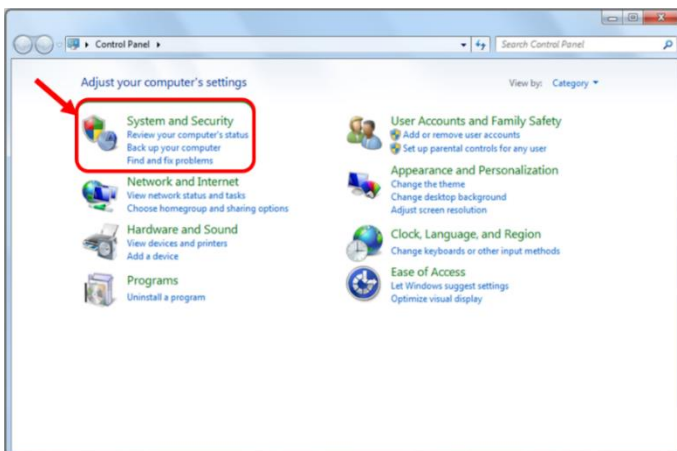

Fig. 15 Control panel.
- Press Start and Select Control Panels (Fig. 15)